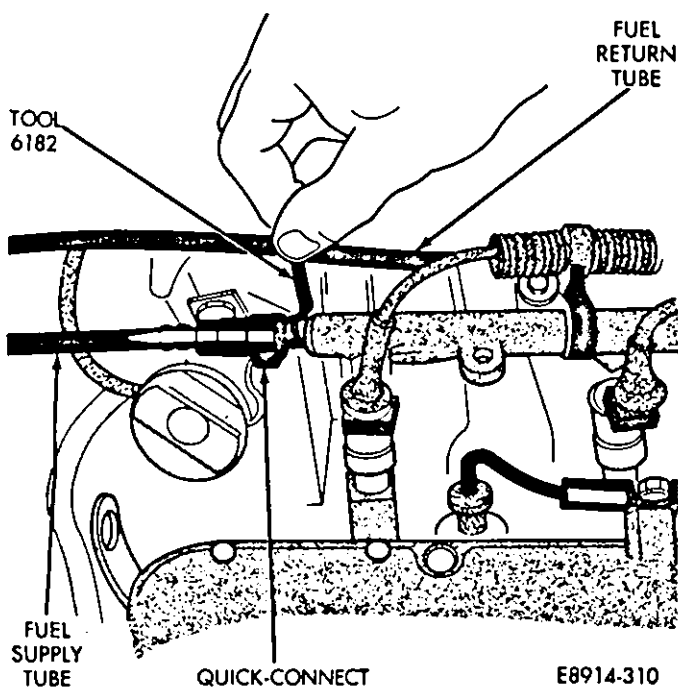
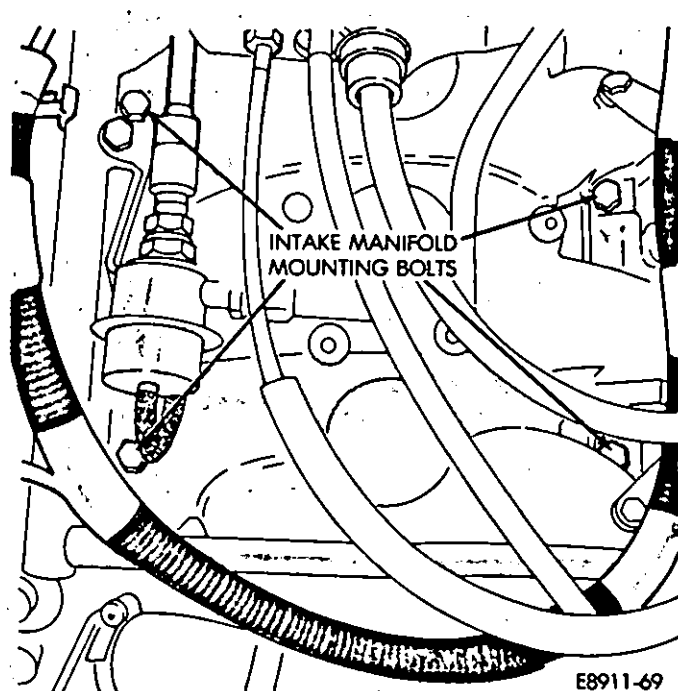

Fig. 5—Disconnect Fuel Lines Using Disconnect Tool 6182
Fig. 6—Intake Manifold Mounting Bolts
(18) Place shop towels under the fuel tubes. Disconnect the fuel supply tube from the fuel rail and the fuel return tube from the fuel pressure regulator using disconnect tool 6182 (Fig. 5). Slide the tool onto the nipple and push it forward into the quick-connector until the handle stops on the connector casing. Pull the fuel tubes off.
(19) Move the tubes to the side being careful not to kink the fuel tubes.
(20) Loosen the intake manifold mounting bolts (Fig. 6).
(21) Remove the intake manifold.
(22) Remove and replace the O-rings in the cylinder heads.